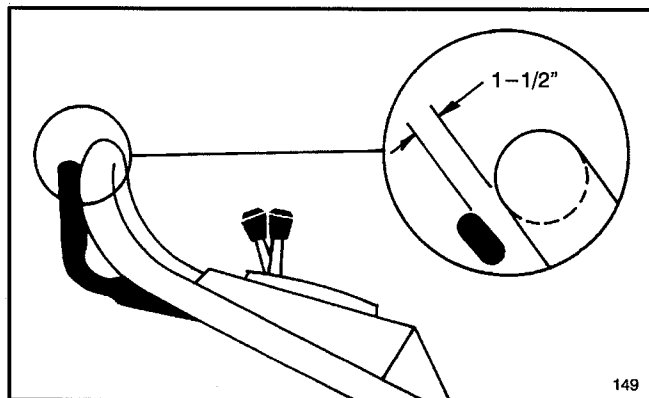

Figure 23
- Lift control bar until some resistance is felt. Control bar should be 1 1/2" from handle when properly adjusted (Fig. 23).